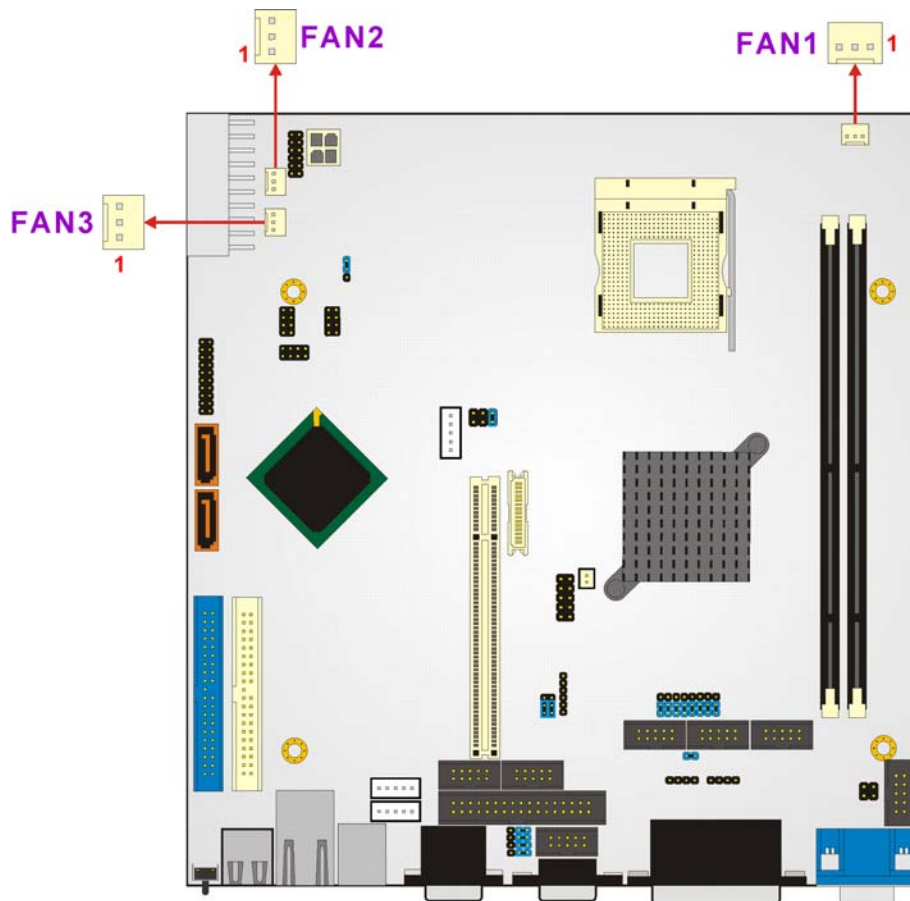

Figure 3-8: Cooling Fan Connector Locations
- CN Location: See **Figure 3-8**